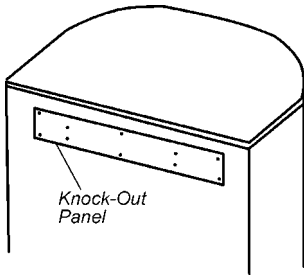

Figure 12-Removing Stove Knock-out Panel
1. From back of heater remove the Knock-out center panel with two brackets at the four sides with a phillips head screwdriver (see Figure 12).